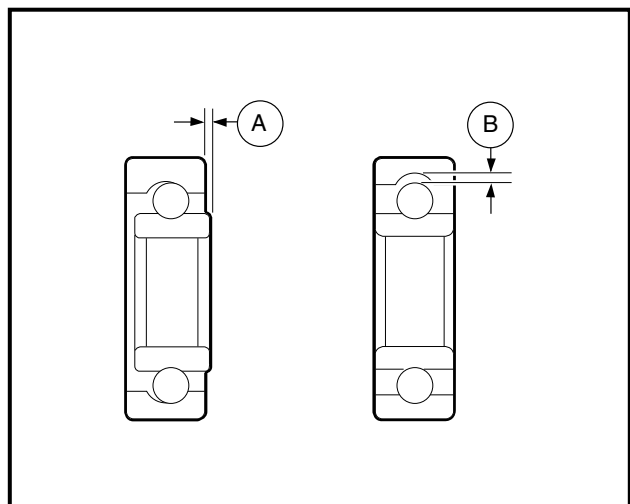

Figure 19-25 Inspect Bearings
2. Inspect all bearings by spinning them by hand. Check the bearings for excessive axial (A) and radial (B) play (**Figure 19-25, Page 19-14**). Replace bearings if they do not spin smoothly, if they are noisy, or if they have excessive play. Replace bearings if they are rusted, worn, cracked, pitted or discolored.